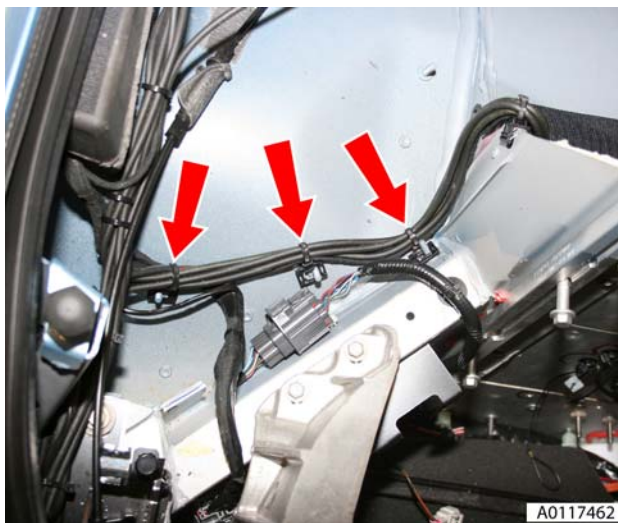

Figure 6
11. Remove harness/pipe retaining clips (x3) LH side (see Figure 6).